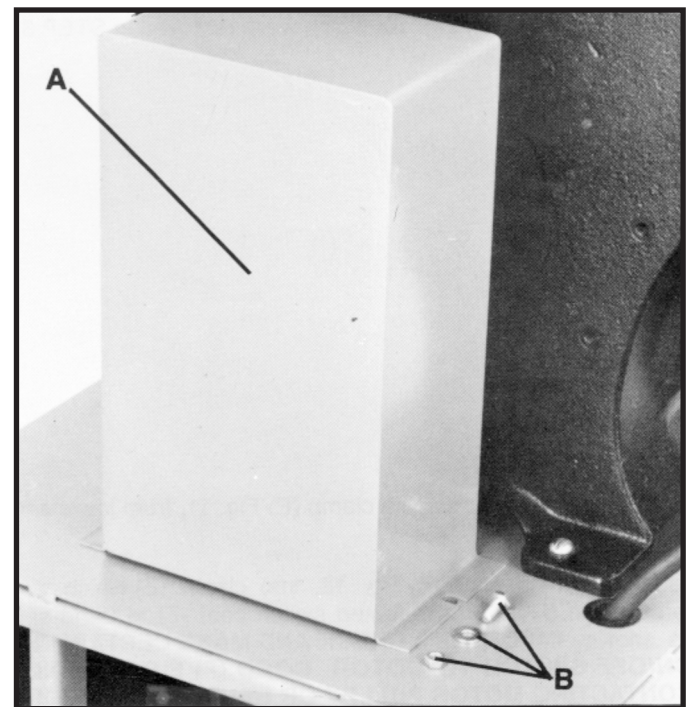

Fig. 8
Assemble belt and pulley guard (A) Fig. 8, to the top of the stand and surrounding the driven pulley with two $\frac{3}{4}$ -20 x $\frac{5}{8}$ hex head screws, flat washers and hex nuts (B).